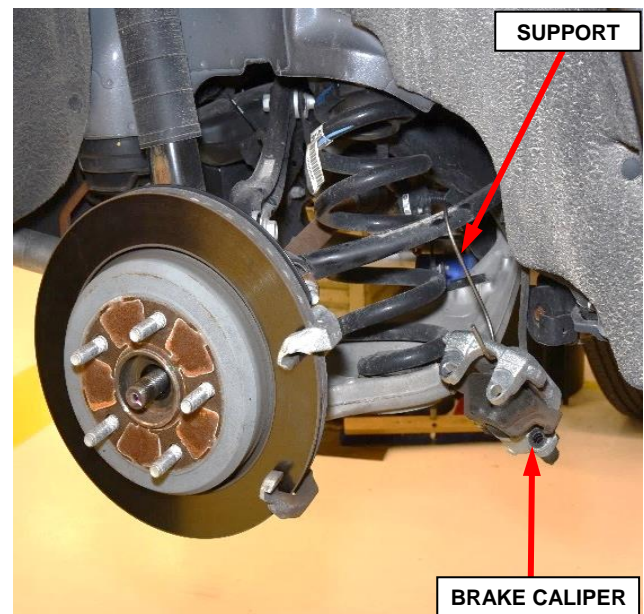

Figure 14 – Support Brake Caliper
21. Remove the brake caliper from the brake caliper adapter and support the brake caliper so that no weight is applied to the brake hose (Figure 14).